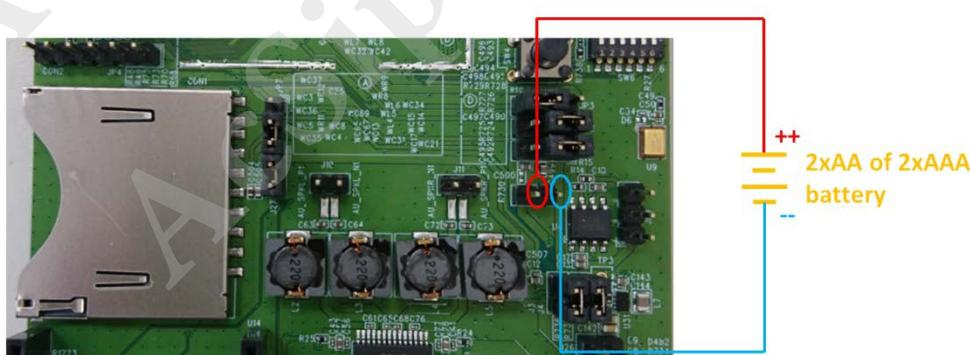

Figure 5. Power up the HDK using an AA or AAA Battery (J25)
- Connect an external AA or AAA battery to battery pin header (J25) to supply power to the system, as shown in Figure 5. When using RTC mode, please note that remove jumper J2 and plug in jumper J26. Jumper JP5 should be switched to pin2 and pin3. More details on the jumpers can be found in.